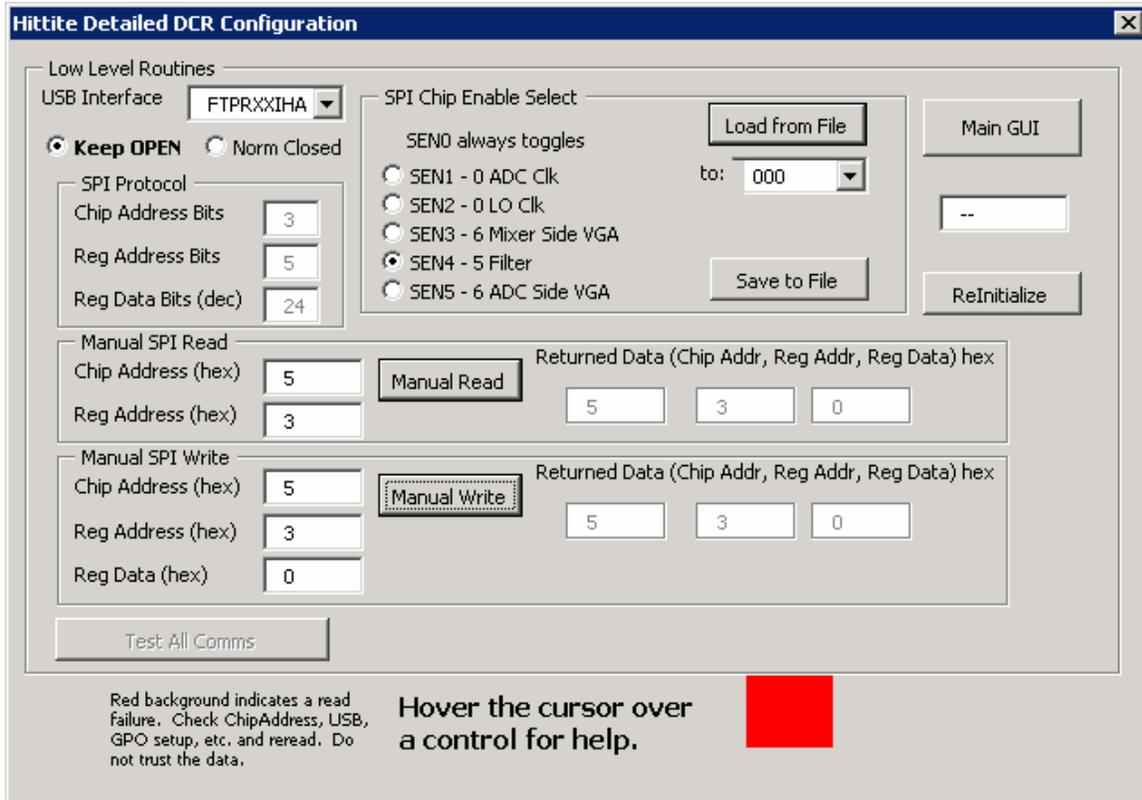

Figure 59. Program `fine_bandwidth_code` to HMC900LP5E
- Then write fine_bandwidth_code to Reg03h of the HMC900LP5E as per Figure 59.